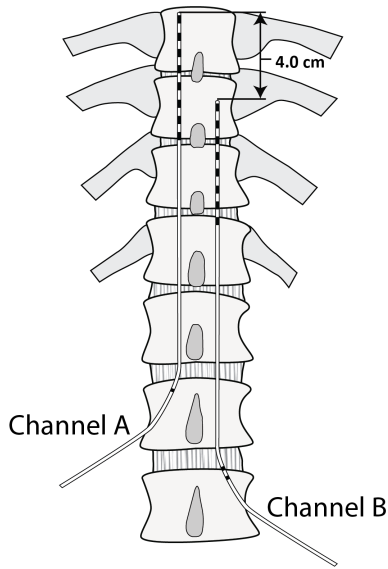

Figure 14
2. Implant the second Trial device parallel to the first (see Figure 14).